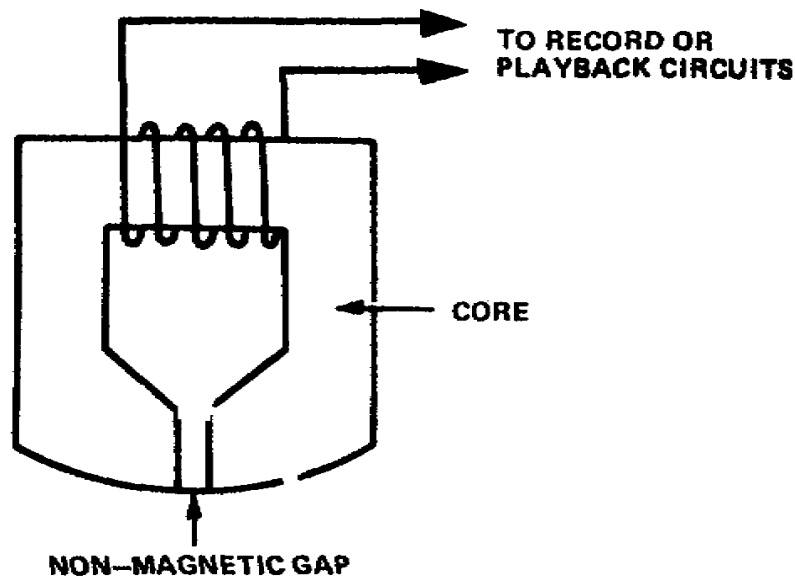

Figure 1-1. Typical magnetic head
1. Magnetic tape consists of thin plastic backing coated with a binder containing iron oxide particles. Signals are recorded on the tape with an electromagnet called a record head (fig 1-1). The iron core of the record head is U-shaped and the small gap between the poles is filled with a nonmagnetic material. The core and gap form a complete magnetic circuit for the lines of magnetic flux which appear whenever a signal current is fed into the coil.